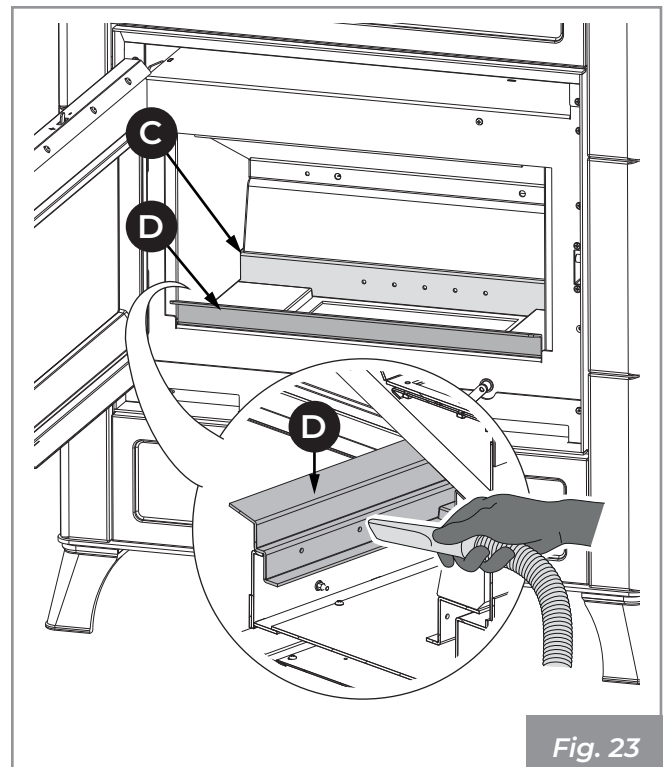

Fig. 23
- 3) Vacuum the rear (C) and front holes (D - if any) of the combustion air distributor in order to prevent ash from accumulating (Fig. 23).